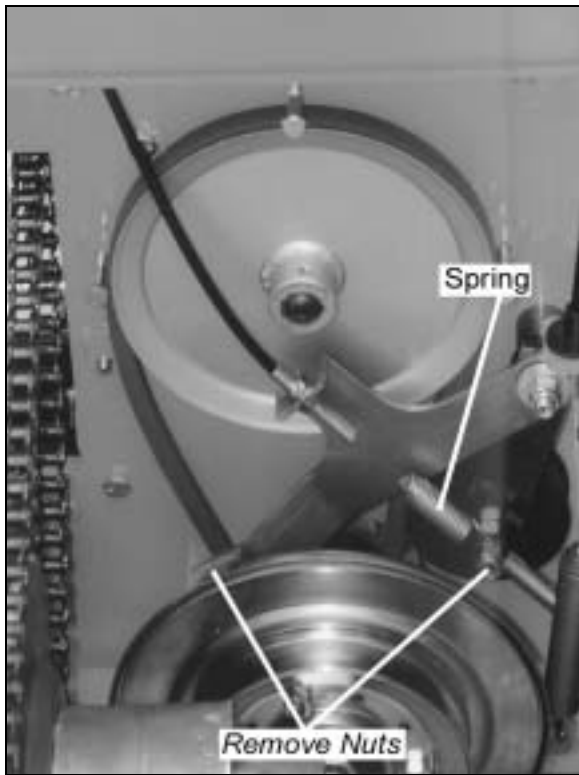

Figure 12
5. Remove the nuts on the clutch bracket and the clutch drive spring (*Figure 12*).